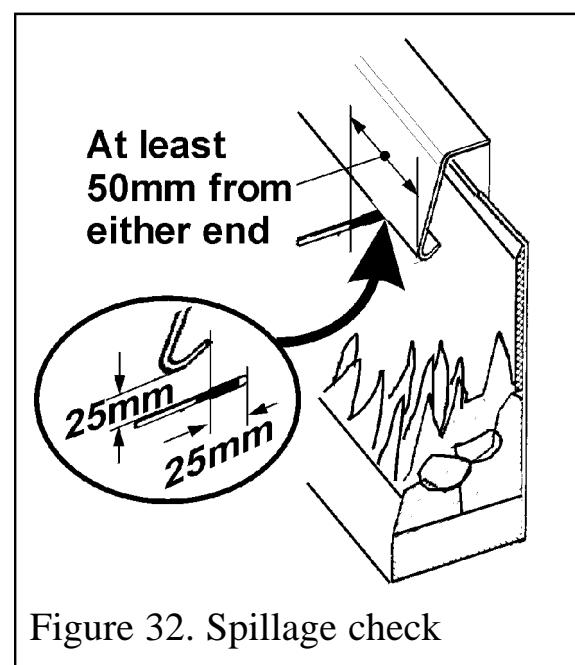

Figure 32. Spillage check
4. Place the smoke match into the appliance canopy (See figure 32).